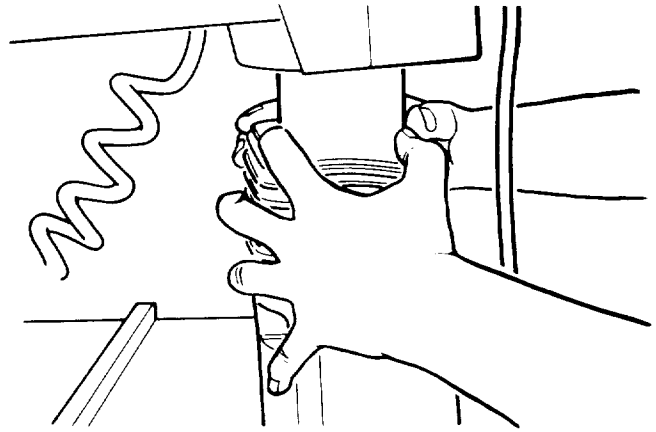

Fig. 142 - Collapsed Bellows
- A light film of oil should be wiped on the face of the *column tube* to lubricate the fit between the *column tube* and *column support*. With elevation *hand-wheel* raise *arm* to upper limit. Completely collapse bellows by pulling down on top flange as illustrated for access to *column tube*. (Figure 142)